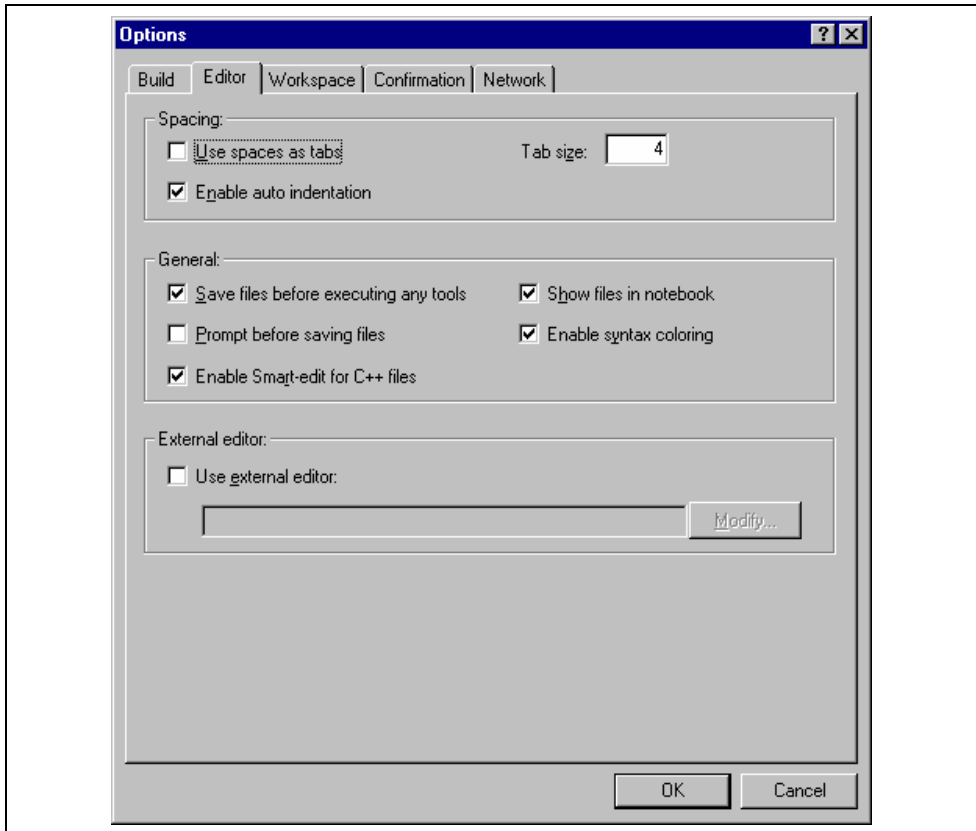

Figure 6.11: Options Dialog Editor Tab
1. Select [**T**ools->**O**ptions...]. The “Options” dialog will be displayed. Select the “Editor” tab (figure 6.11).
The High-performance Embedded Workshop allows you to customize file save on the “Editor” tab of the “Options” dialog (figure 6.11). To open the tab, select [**T**ools->**O**ptions...] and click the “Editor” tab.